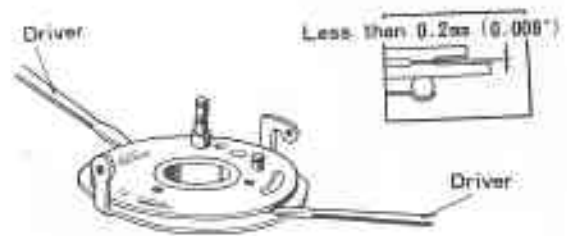

Fig. 10-16. Checking Clearance between Stationary & Breaker Plates G0349
4. Insert two screwdrivers between the breaker plate and the stationary plate as shown in the figure 10-16, and pry the screwdrivers.